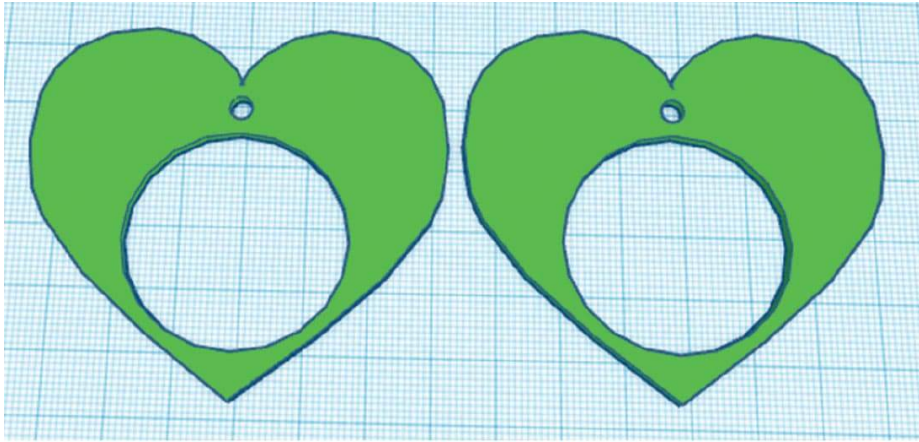

FIG. 6: Three shapes make up the earring design: a heart, a large hole, and a small hole.
1. The basic design of the earring we will make is shown in fig. 6.